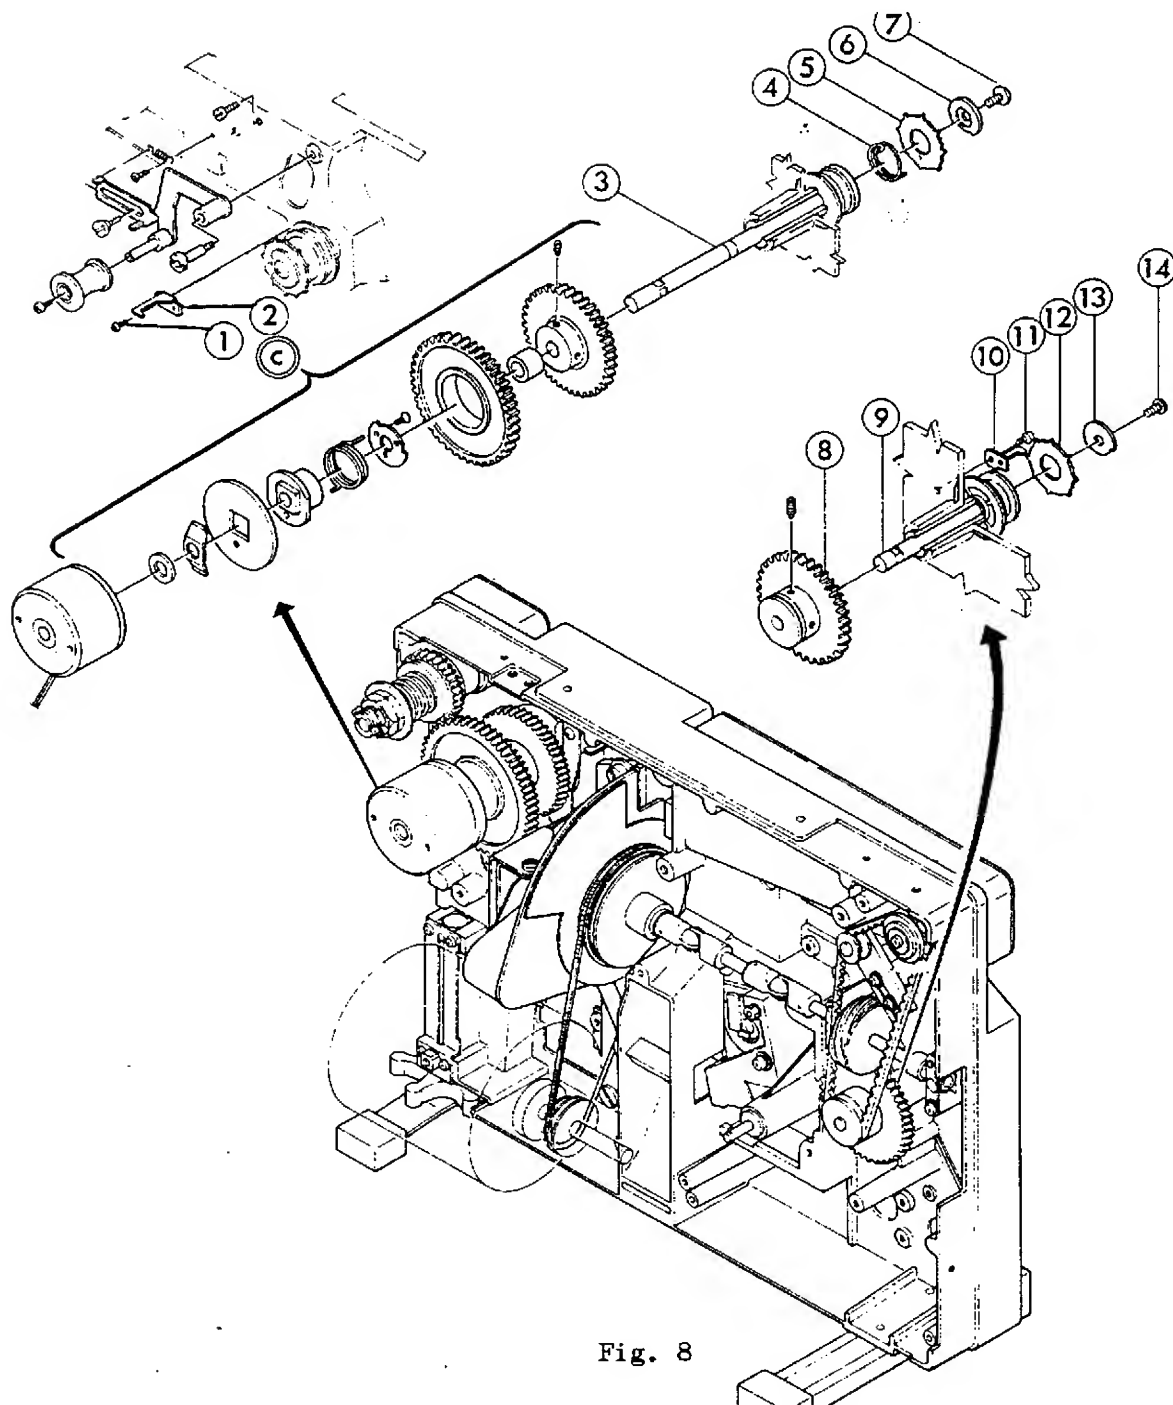

Fig. 8
- * Remove Fig. 8-3 by detaching (c) in Fig. 8. (Refer to D-1)